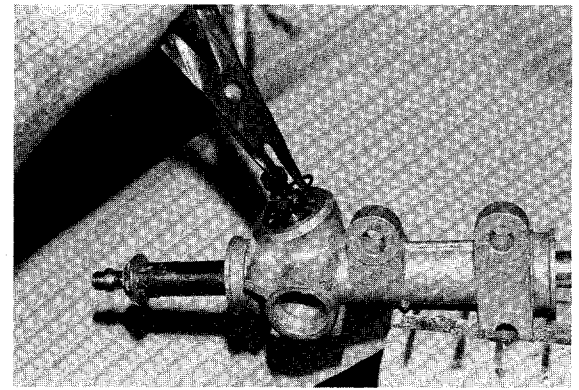

Figure 12-10
9. Remove internal snap ring (29) with a snap ring pliers (Figure 12-10).